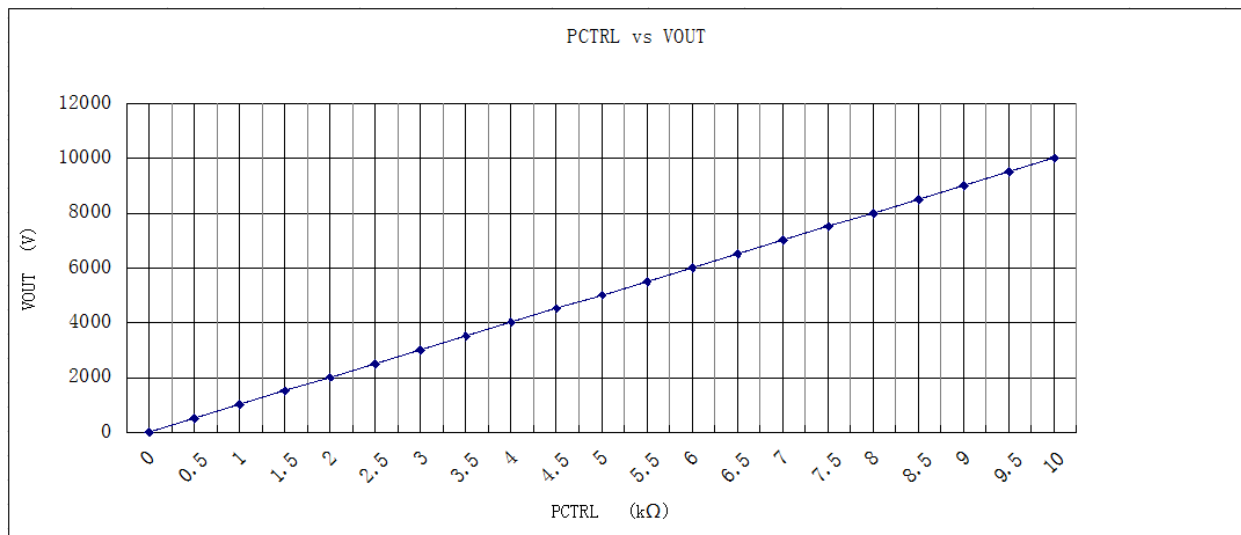

Figure 4. PCTRL vs. VOUT
5. HV adjustment: 10-turn potentiometer for adjusting output voltage. Rotate it clockwise to increase the output voltage, and the potentiometer resistance = the corresponding scale \times 10 Ω . For example, as Figure 4 shows, when the scale is 10, and the frame above the scale shows 1 (1k Ω), then the resistance = $10 \times 10\Omega + 1k\Omega = 1.1k\Omega$, and the like.